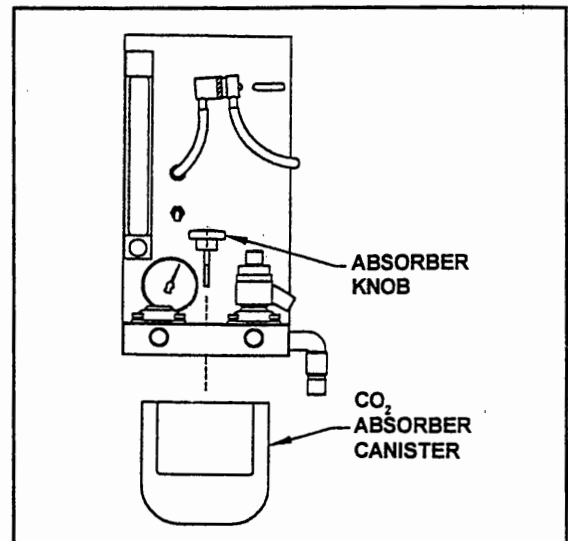

Figure 3. Absorber Assembly
4. Position the absorber canister with decal facing the front of machine as shown in Figure 3. Screw absorber knob into canister through top of manifold block. Hand tighten securely.